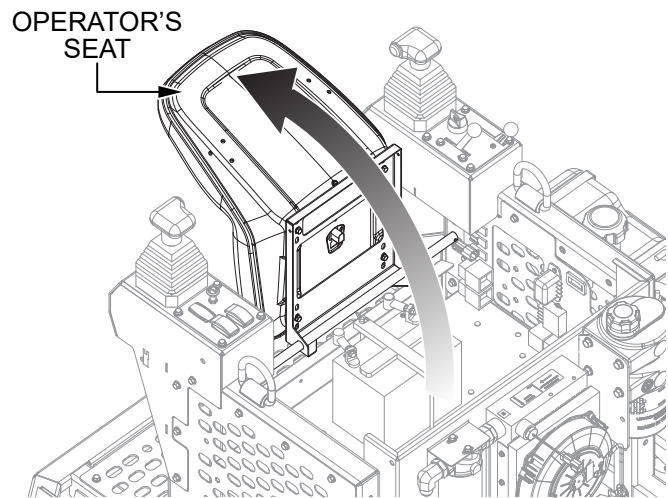

Figure 3. Tilt Operator's Seat Forward
2. Tilt the operator's seat forward (Figure 3).